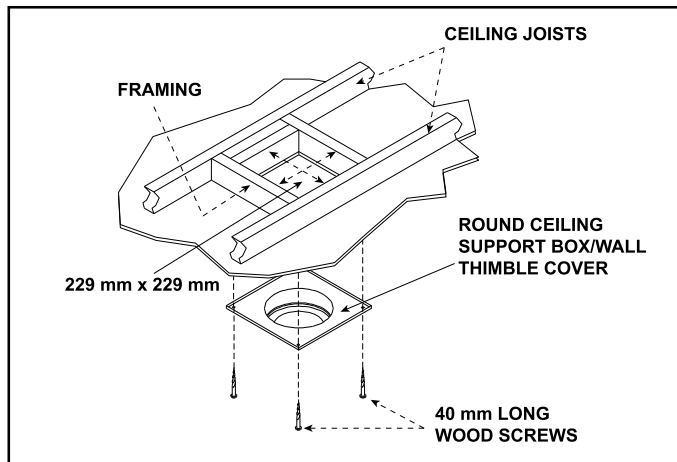
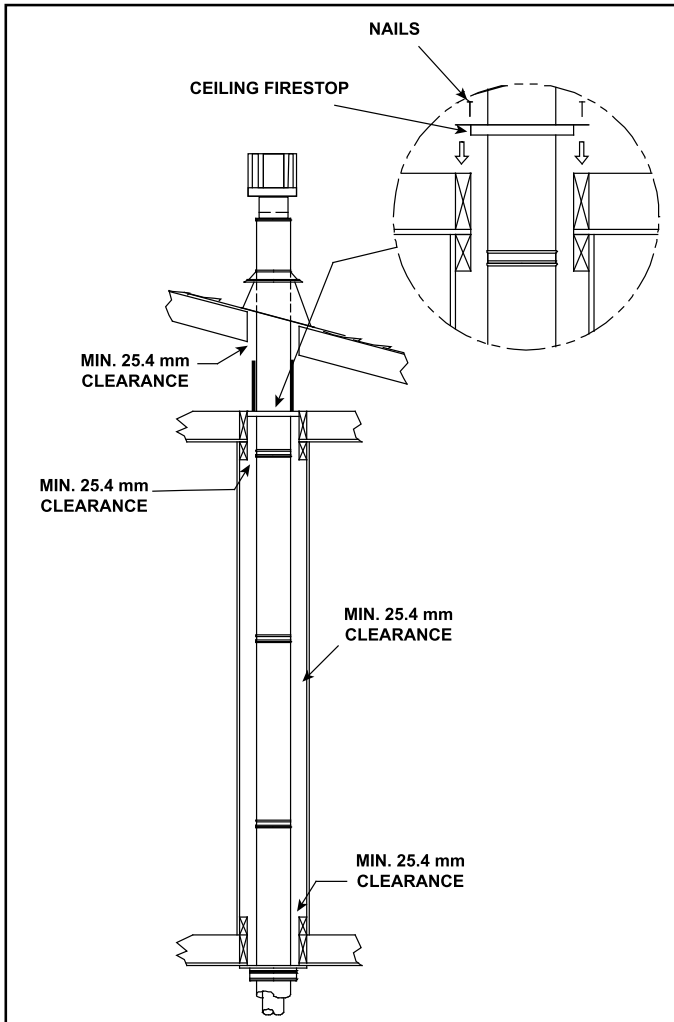

Figure 7.22
Figure 7.25
To install the round support box/wall thimble cover in a flat ceiling, cut a 229 mm square hole in the ceiling, centered on the hole drilled in Step 2. Frame the hole as shown in **Figure 7.22**.
**Note:** For multi-story vertical installations, a ceiling firestop is required at the second floor, and any subsequent floors (Figure 7.25). The opening should be framed to 9 in. x 9 in. (229 mm x 229 mm) inside dimensions, in the same manner as shown in Figure 7.22.